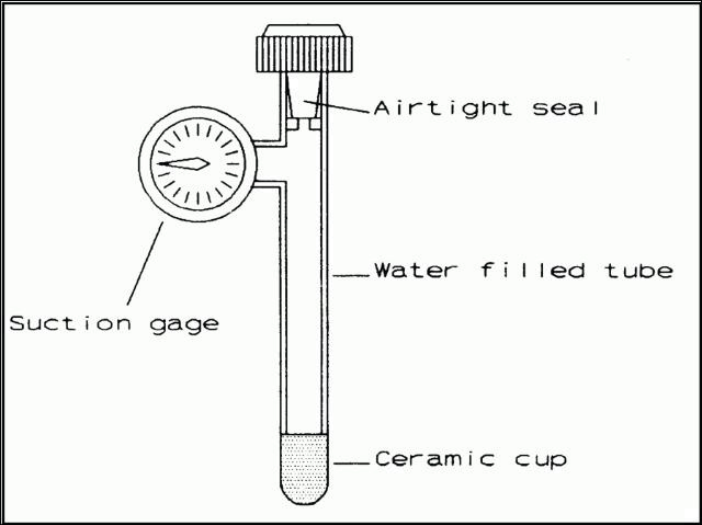

Figure 5. Tensiometer.
- *Direct measurement of soil moisture.* Using sensors for measuring the amount of available water in the soil is another way to determine when to irrigate. One such sensor is the tensiometer (see Figure 5). As the soil dries, water moves out of the tensiometer through the ceramic, causing a suction that is measured by the vacuum gauge.